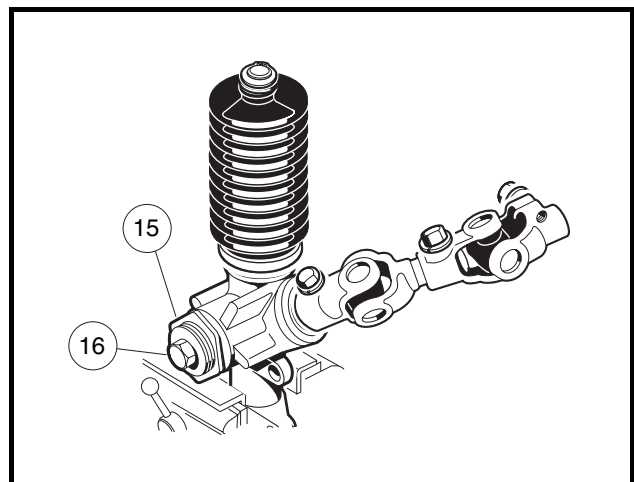

Figure 7-14 Rack and Pinion Adjustment
- 11.4. If measured resistance does not equal 7 to 15 in-lb, loosen the lock nut (15) and tighten the screw (16) until it bottoms out, then back the screw off one quarter turn. Tighten the lock nut to 28 ft-lb (38 N·m) (**Figure 7-14, Page 7-11**). **See following NOTE.**
**NOTE:** When tightening the lock nut (15) make sure the screw (16) does not change adjustment (**Figure 7-14, Page 7-11**).